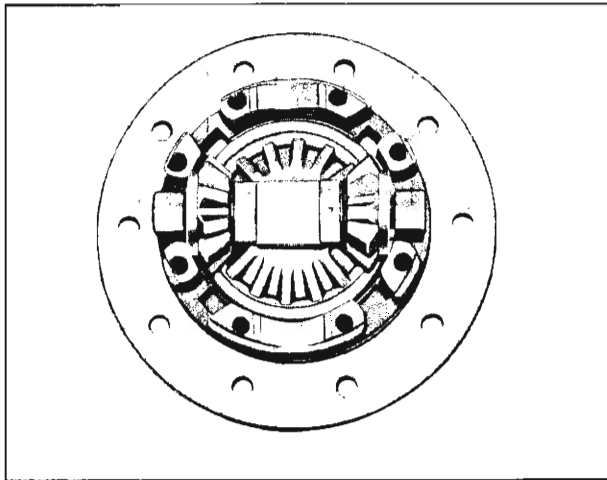

Fig. 41—Shaft and Gear Installation
3. Install side gear in retainer ring and position one cross shaft and pinions on side gear with ramp in shaft facing up (fig. 41).